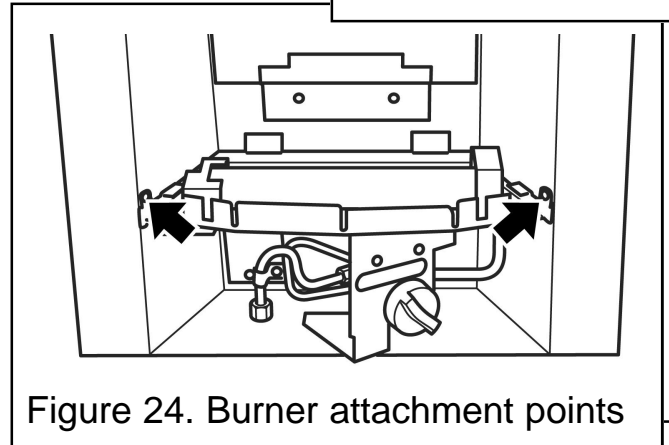

Figure 24. Burner attachment points
4. Detach the burner unit from the hotbox by removing two screws (See figure 24).